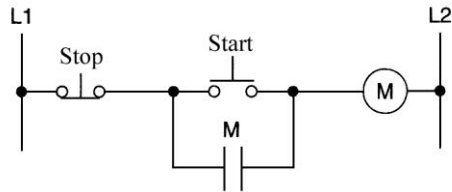

Figure 6-27 Hardwired circuit for assignment 3.
3) The hardwired start/stop motor control circuit shown in Figure 6-27 can be programmed using a PLC. Prepare an I/O connection diagram and ladder logic program for the circuit. Enter the program into the PLC, and prove its operation.